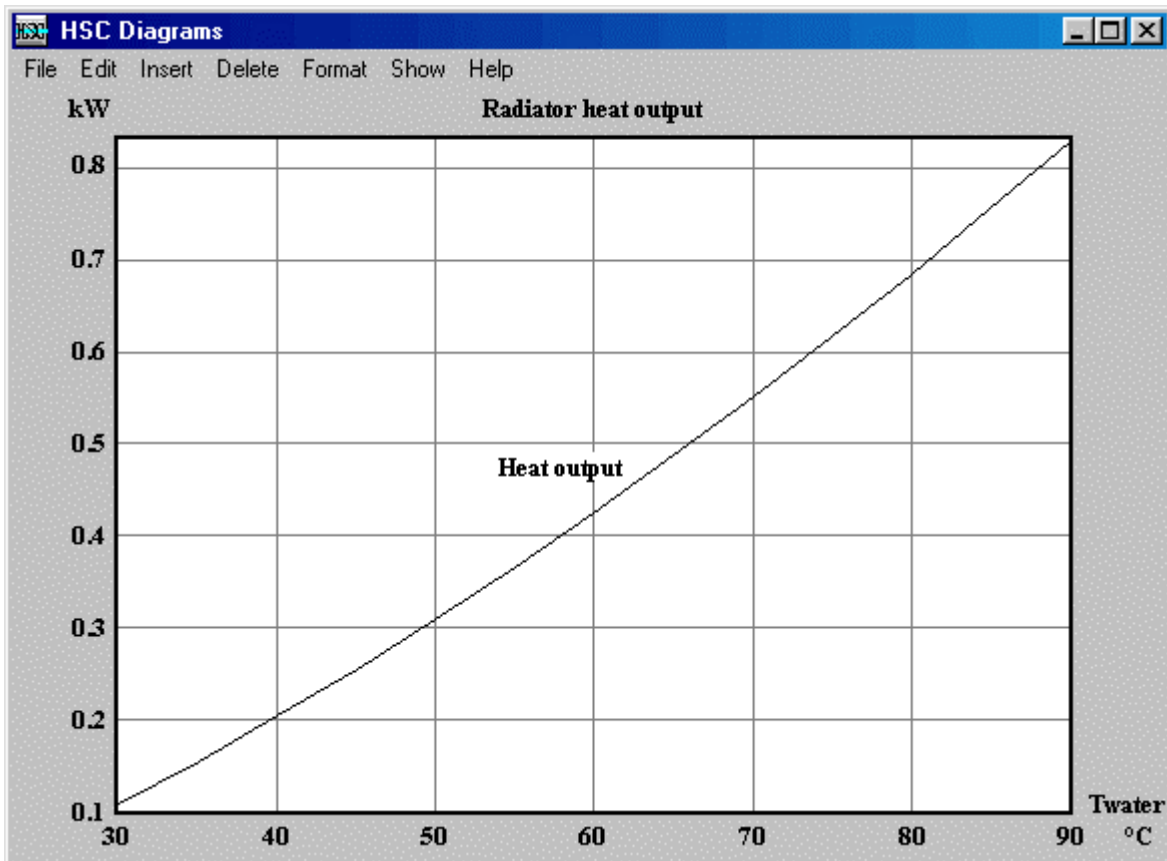

Figure 14: Diagram showing the influence of the inside temperature on the radiator heat output.
9. In the **Diagram Table** window, it is possible to specify properties in detail. However, if this is not necessary just press **Diagram** here too. The resulting diagram is shown in Figure 14.